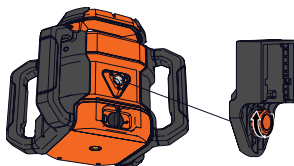

Figure 32
1. Insert the laser mount screw into the side 5/8"-11 screw thread of the unit and tighten. (Figure 32)